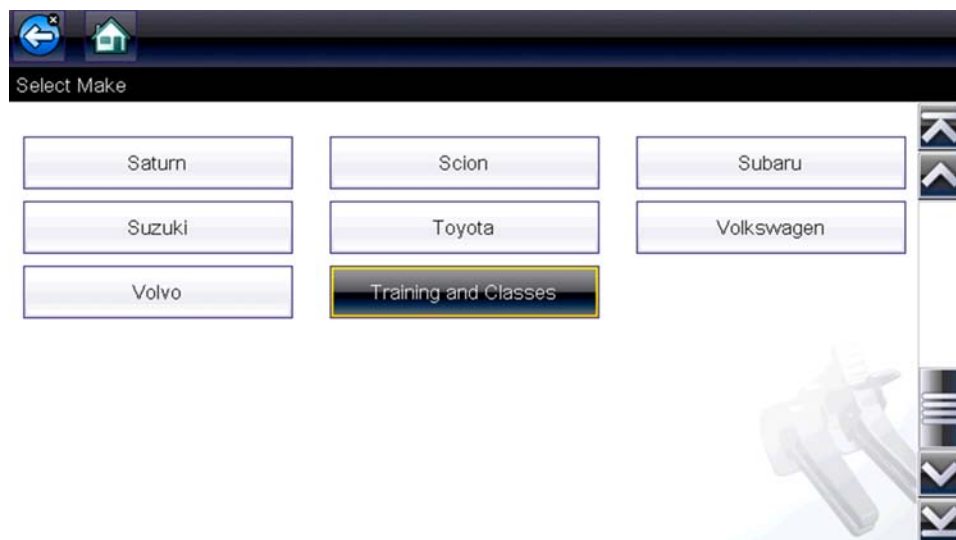

Figure 4-1
2. Select **Training and Classes** from the Vehicle Make menu (Figure 4-1) to access the menu options.